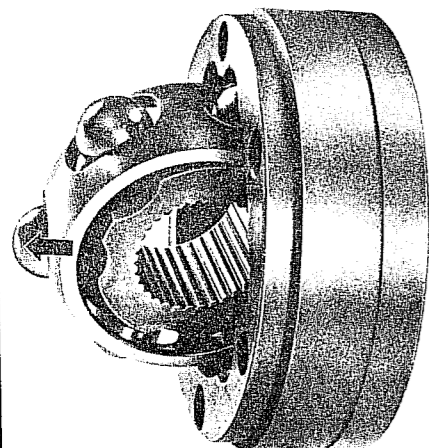

Fig. F.14. Push out the ball hub and ball cage in the direction shown.
1. Press the ball hub and cage out of the outer ring of the joint as shown in Fig. F 14.